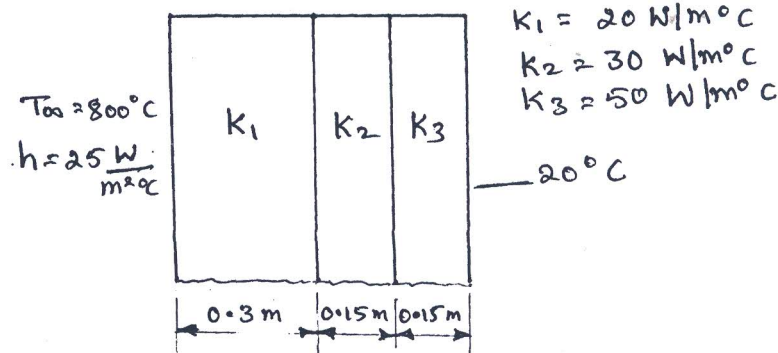

Fig. Q8(b)
- b. A composite wall consists of three materials as shown in the Fig. Q8(b). The outer surface temperature is  $20^{\circ}\text{C}$ . Convective heat transfer takes place on the inner surface with  $T_{\infty} = 800^{\circ}\text{C}$  and  $h = 25 \text{ W/m}^2\text{ }^{\circ}\text{C}$ . Determine the temperature distribution in the inner wall. (14 Marks)